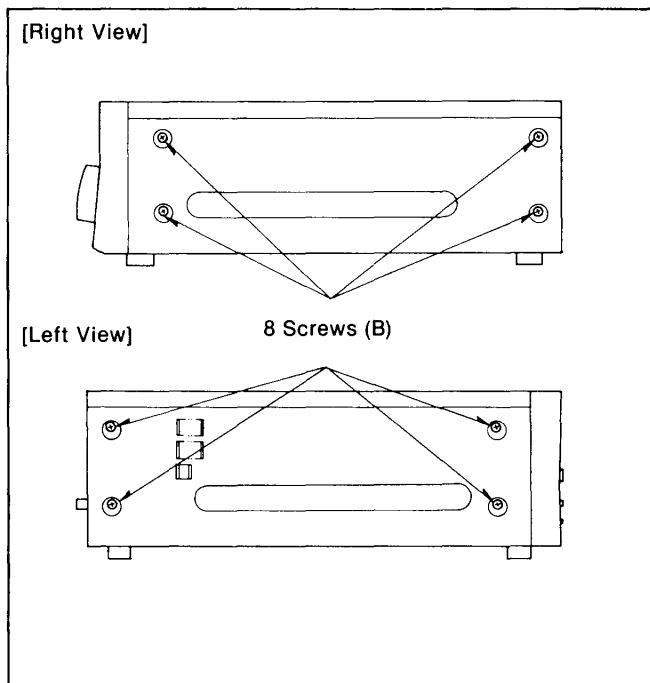

Figure D3
1. Unscrew the 8 screws (B) on the Side Panels (Figure D3).